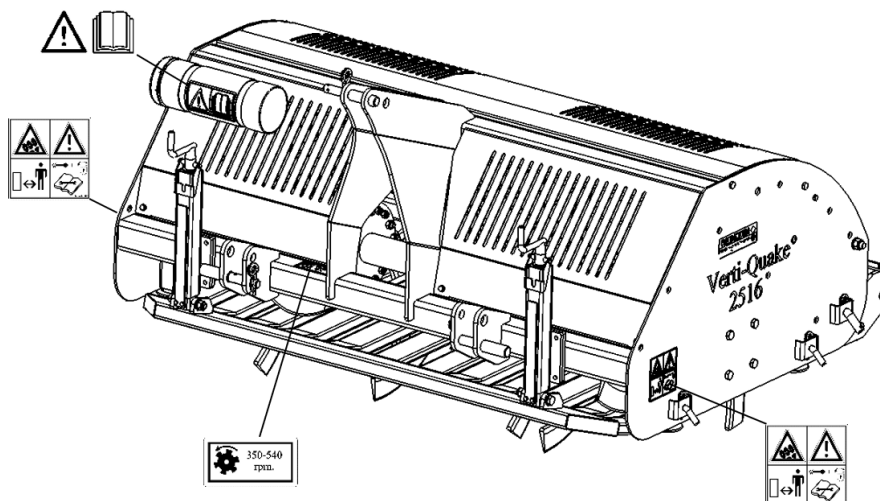

Fig. 6
On both sides of the Verti-Quake®, decals (Fig. 6) are applied to the sideboard showing these warnings. Make sure these safety decals are always clearly visible and legible. Replace them if they are damaged.
- (7) Placement of safety decals. (Fig 6.)